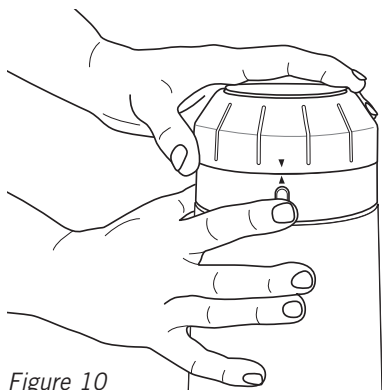

Figure 10
3. Press and hold down the 'UNLOCK' button at the rear of the motor base and with the other hand turn the grind adjustment collar anti-clockwise until the graphic arrow on the collar is aligned with the arrow on the motor base, see figure 10.